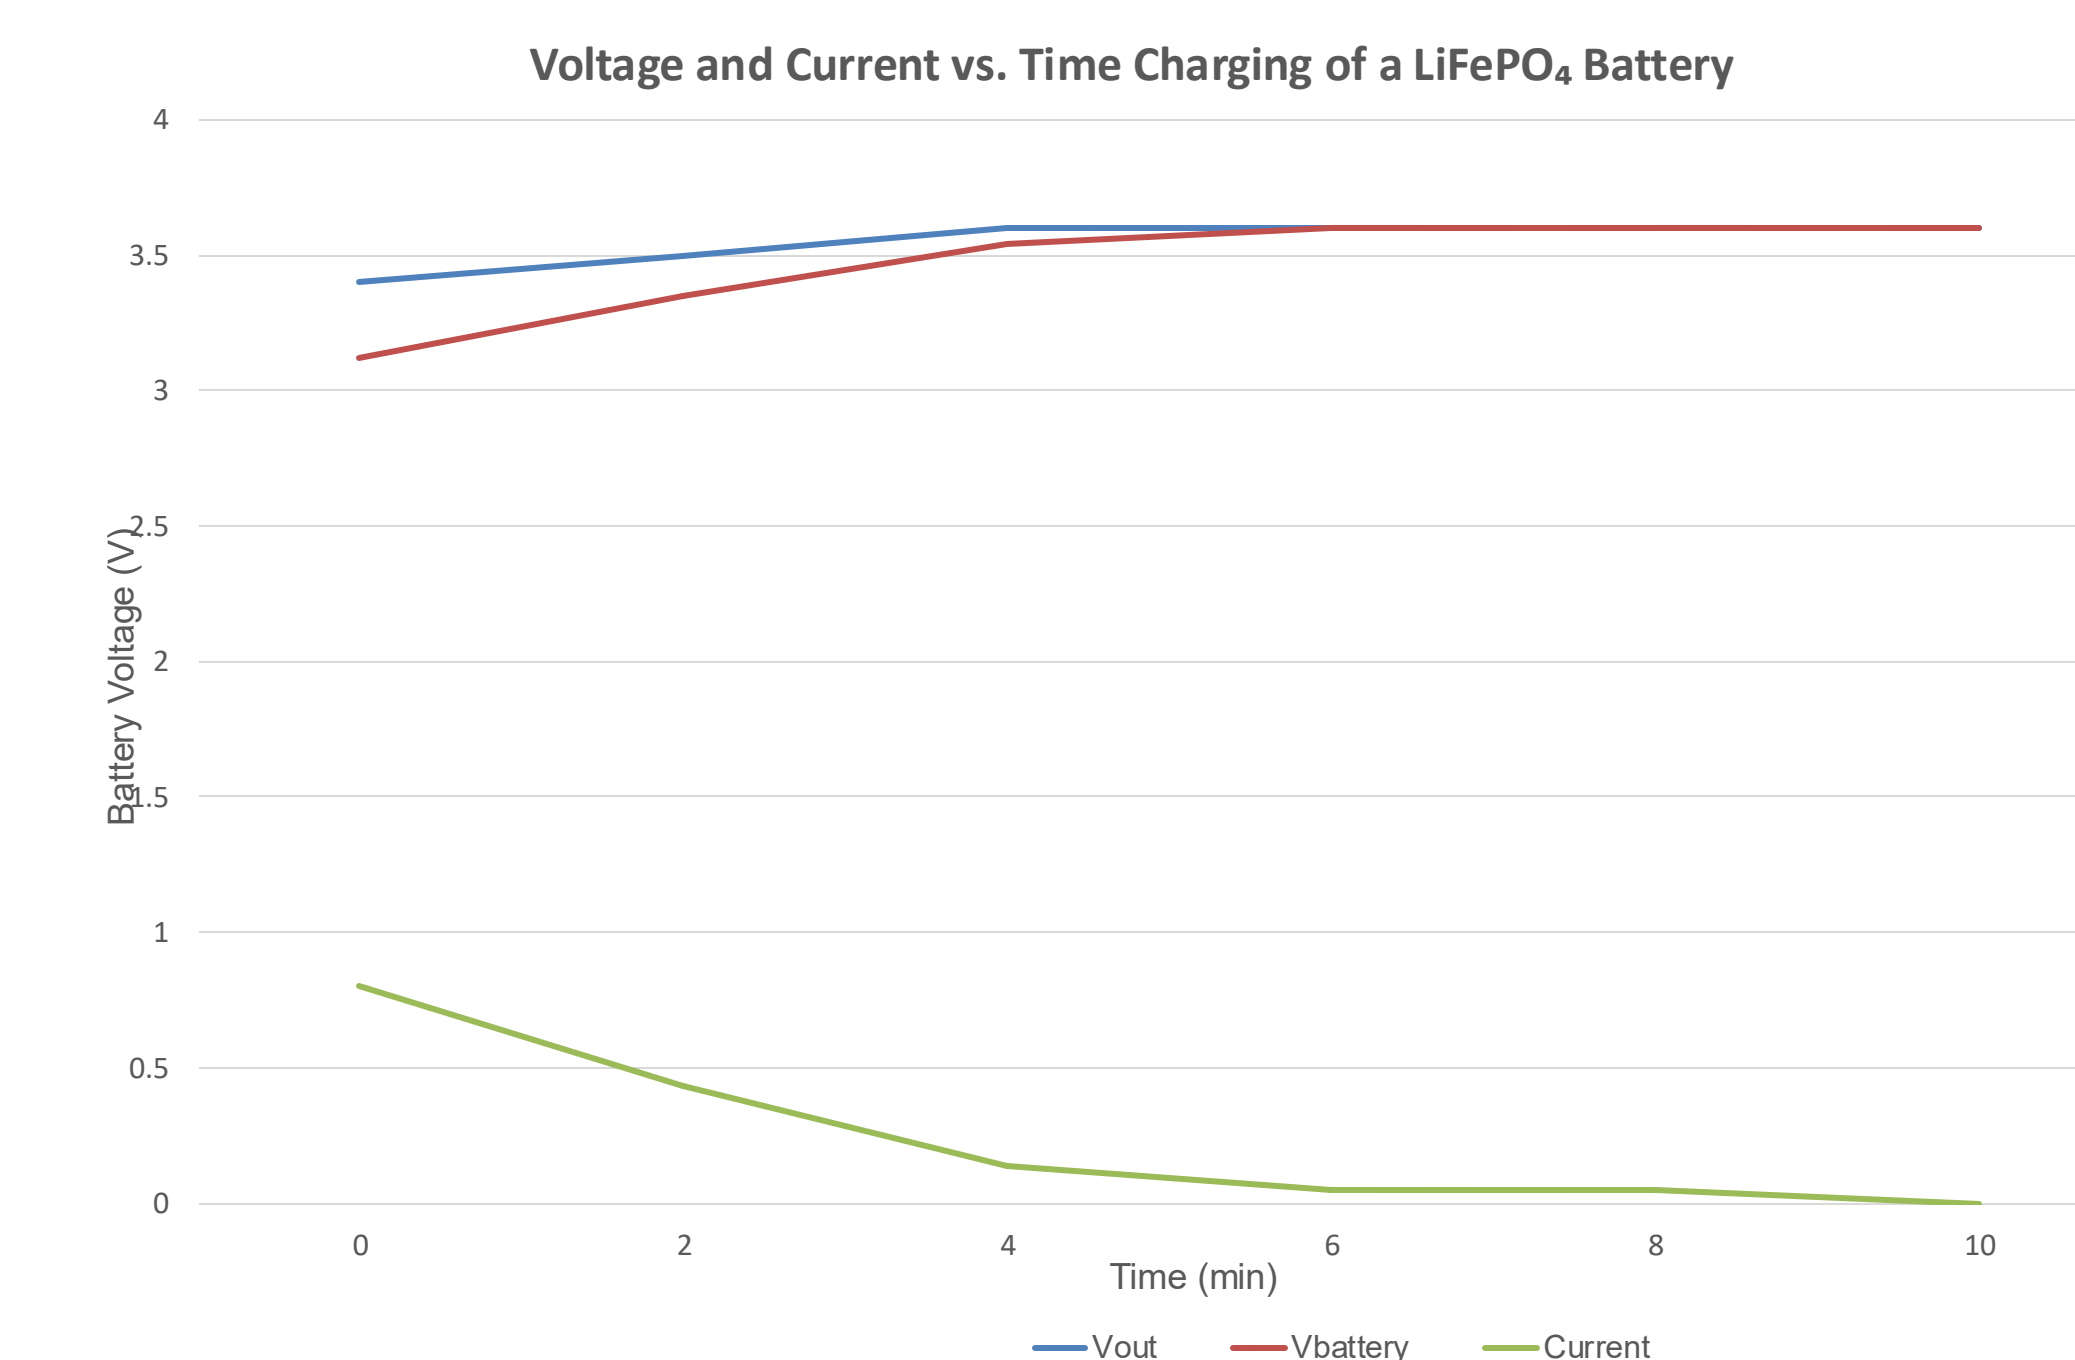
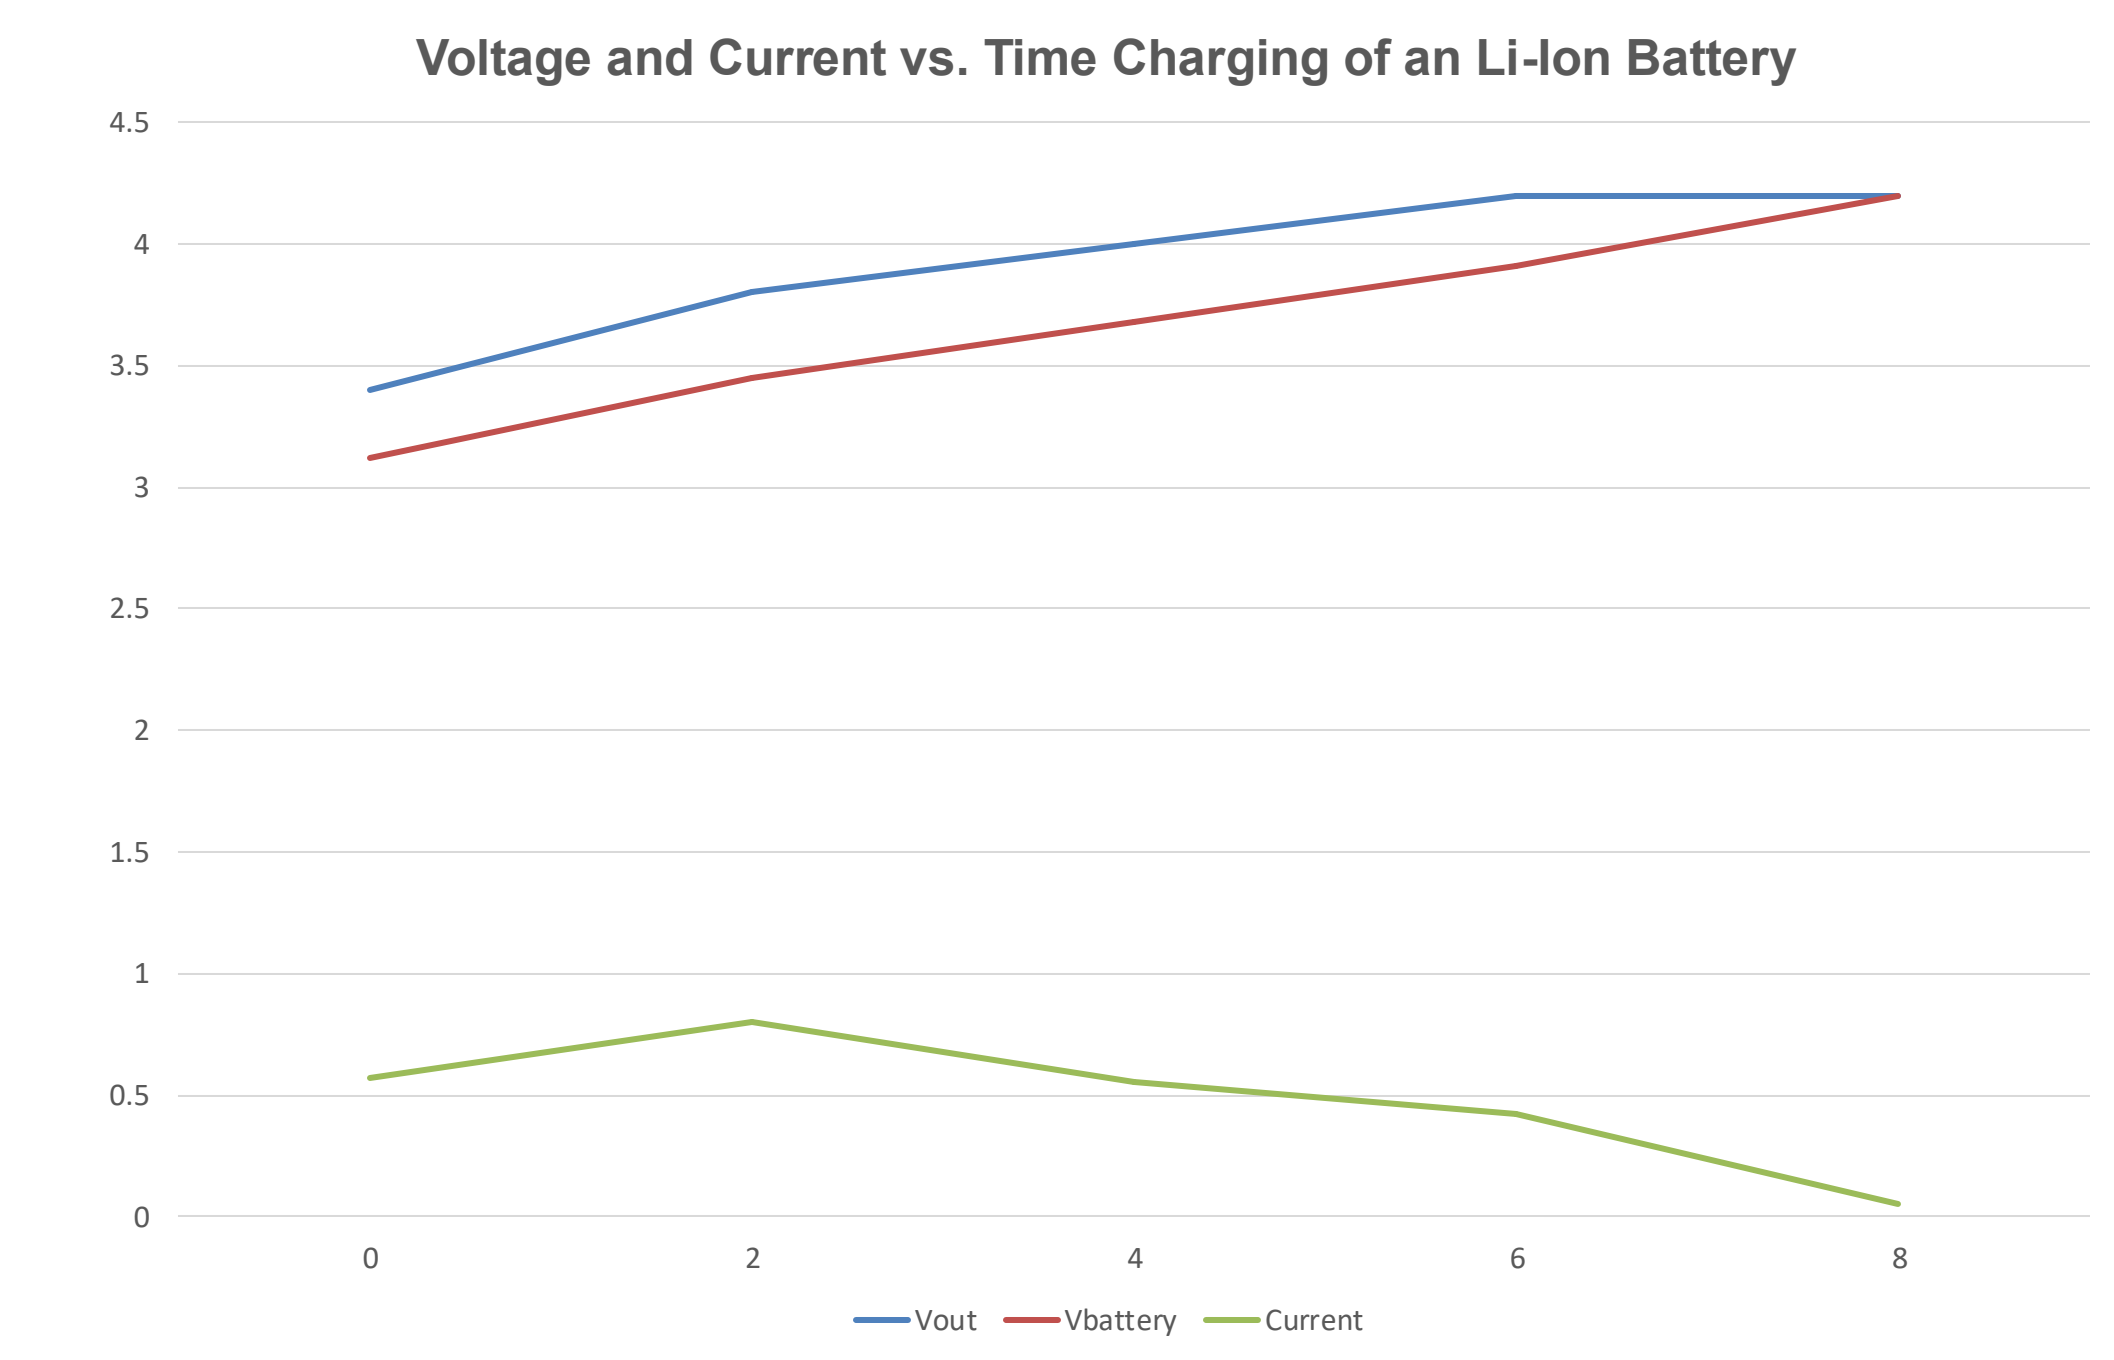

Figure 2. LiFePO₄ Charging at 3.6V for 10 minutes
Figure 3. Li-Ion Charging at 4.2V for 10 minutes
Charger's performance for LiFePO₄ (Figure 2) and Li-ion (Figure 3) batteries was evaluated over a 10-minute charging period. Observation demonstrates the charger operating correctly in the Constant Voltage (CV) phase for both battery chemistries.